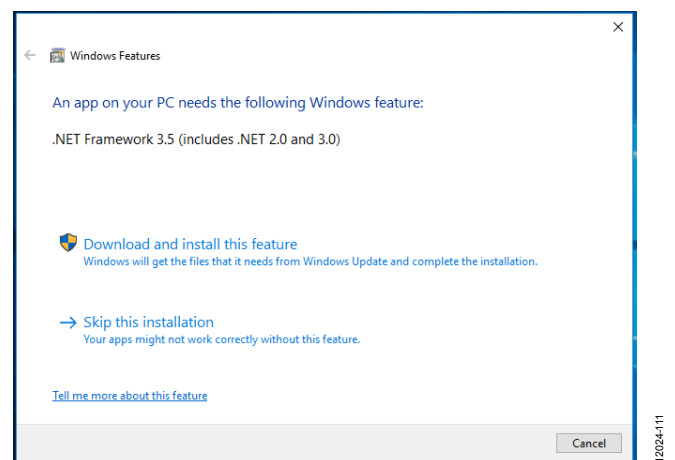

Figure 11. Restarting the PC
1. When the Eval+ Dependencies installer reaches the .Net Framework, the window shown in Figure 11 will appear.
- If the window in Figure 11 does not appear; v3.5 may already be installed. To check if the software is already installed open **Control Panel > Programs > Programs and Features** and select **Turn Windows features on or off**. Check that the .Net Framework v3.5 is enabled.